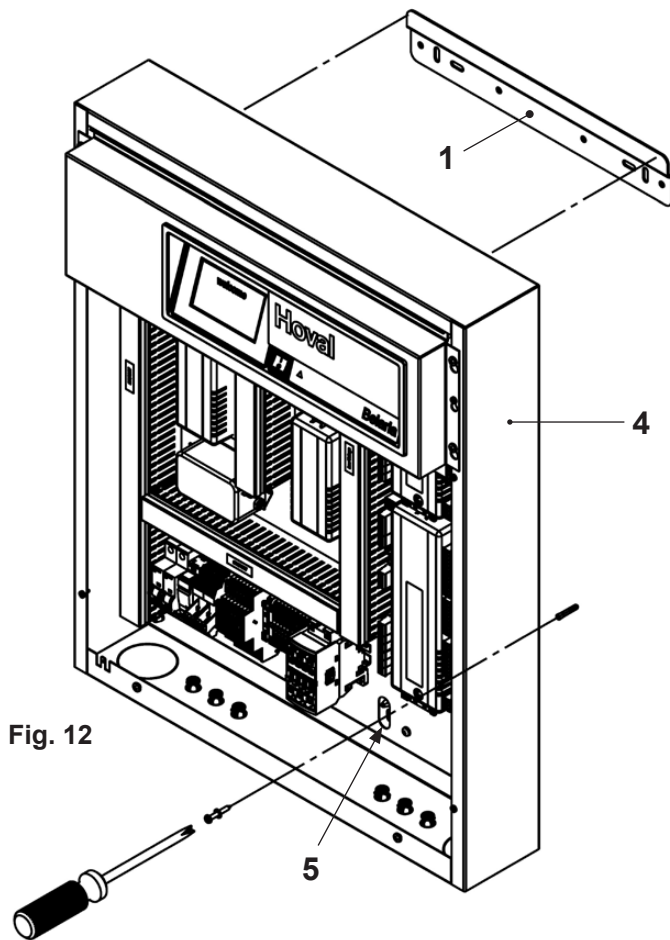

Fig. 12
3. Carefully insert the electrical box (4) into the wall bracket (1).
4. Mark the slotted hole (5, Fig. 12) of the electrical box on the wall.